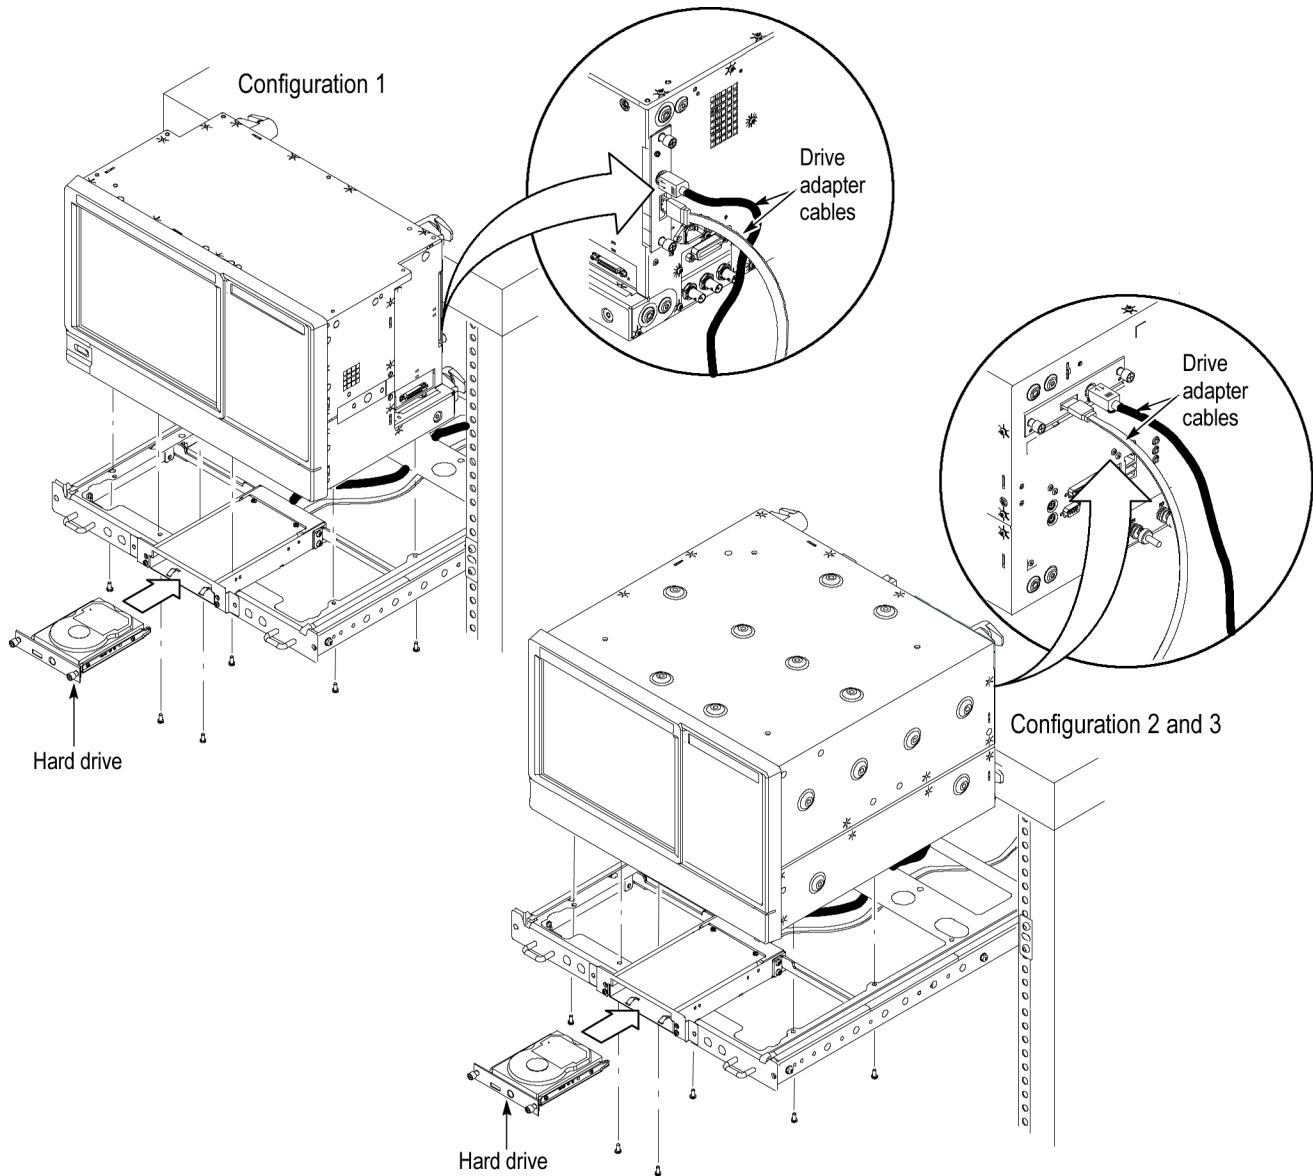

Figure 9: Installing the instrument on the rack plate
9. Install your instrument on the rack plate as shown. (See Figure 9.)